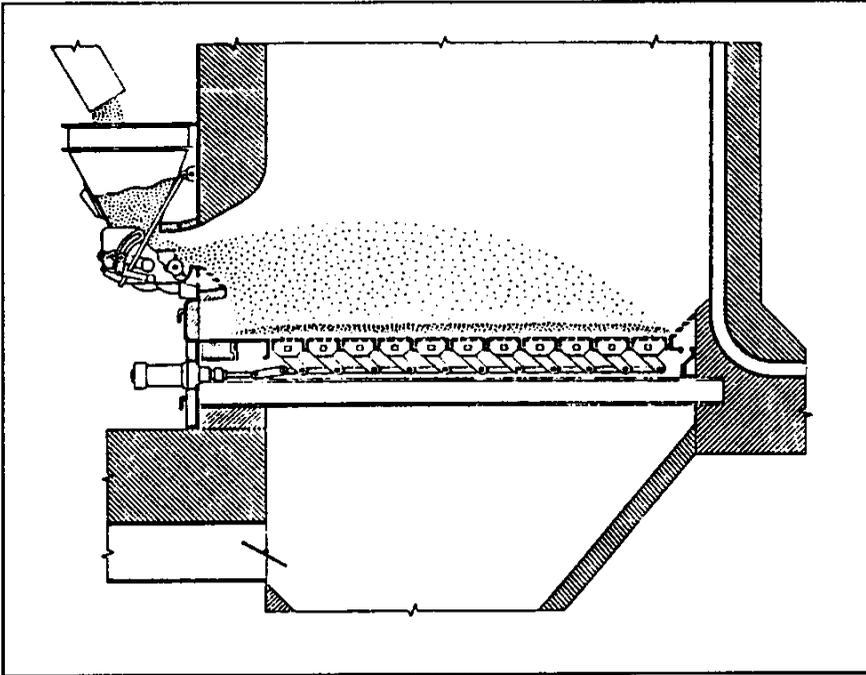

Figure 2-3. Dumping grate.
- *Dumping Grates.* (Figure 2-3) Each grate bar is tipped or opened like a venetian blind so that ash will fall into an ash pit. The tipping of grate bars can be accomplished by hand operation or automatically. The procedure of taking one feeder section out of service long enough to remove ash is the same as when stationary grates are used.